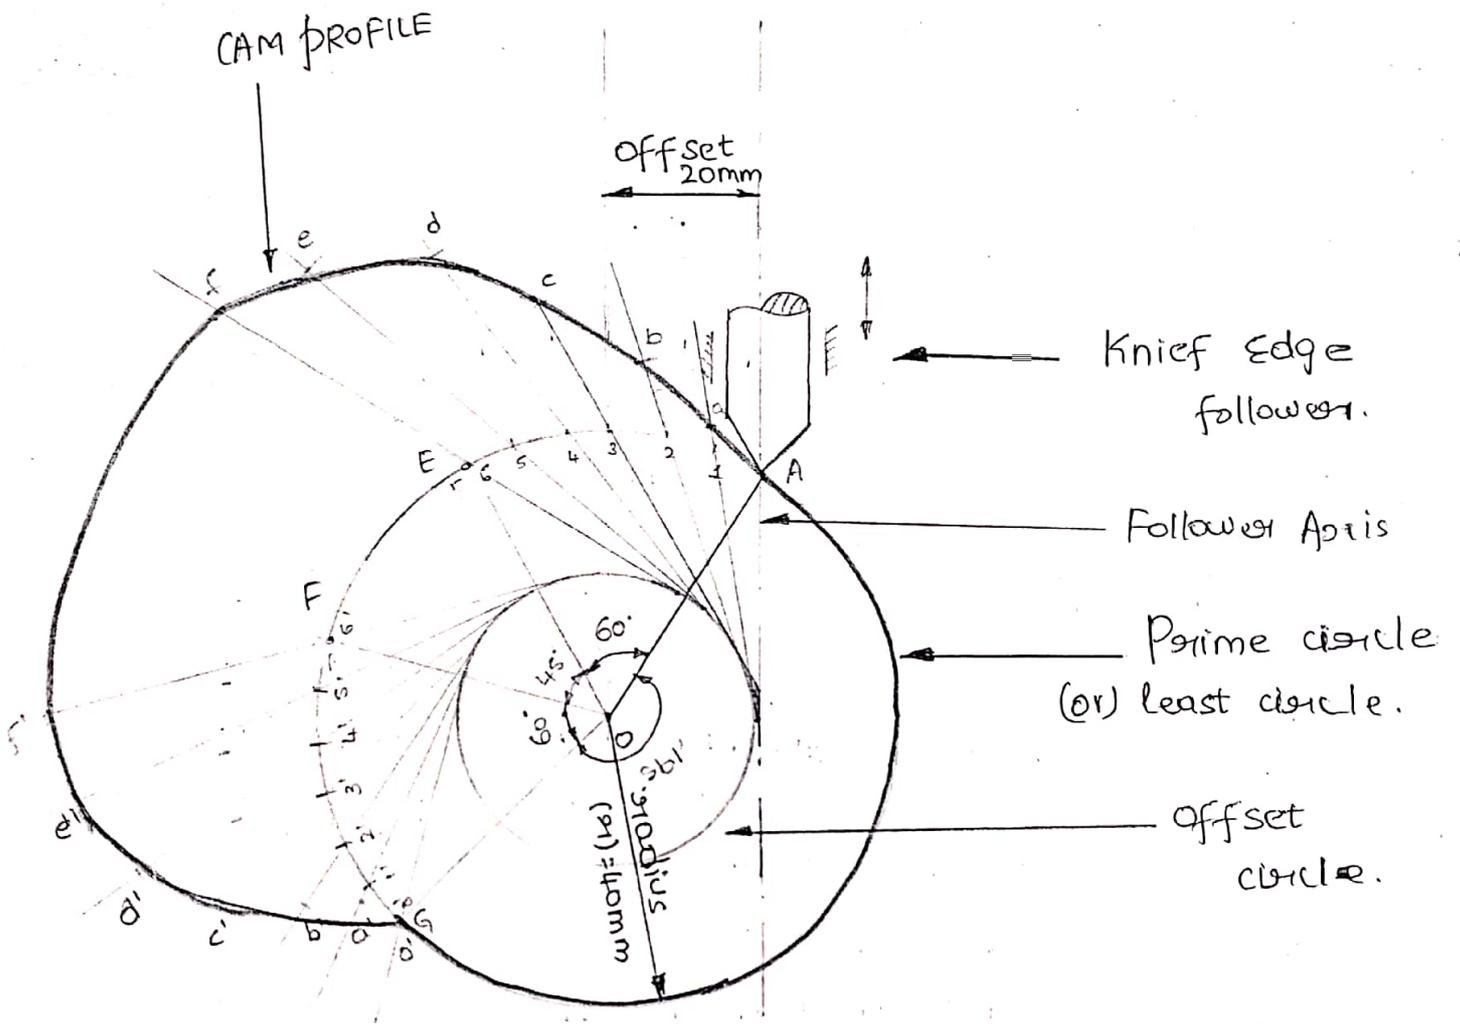

Fig 4.2 (a) Cam profile diagram.
### CAM profile Construction: [Fig 4.2 a]
- vii) From 1, 2, 3, 4, 5, 6 for outward stroke and 6', 5', 4', 3', 2', 1' for return stroke draw tangents to the offset circle from the prime circle and extend these tangents beyond the prime circle as shown in figure. 4.2(a).